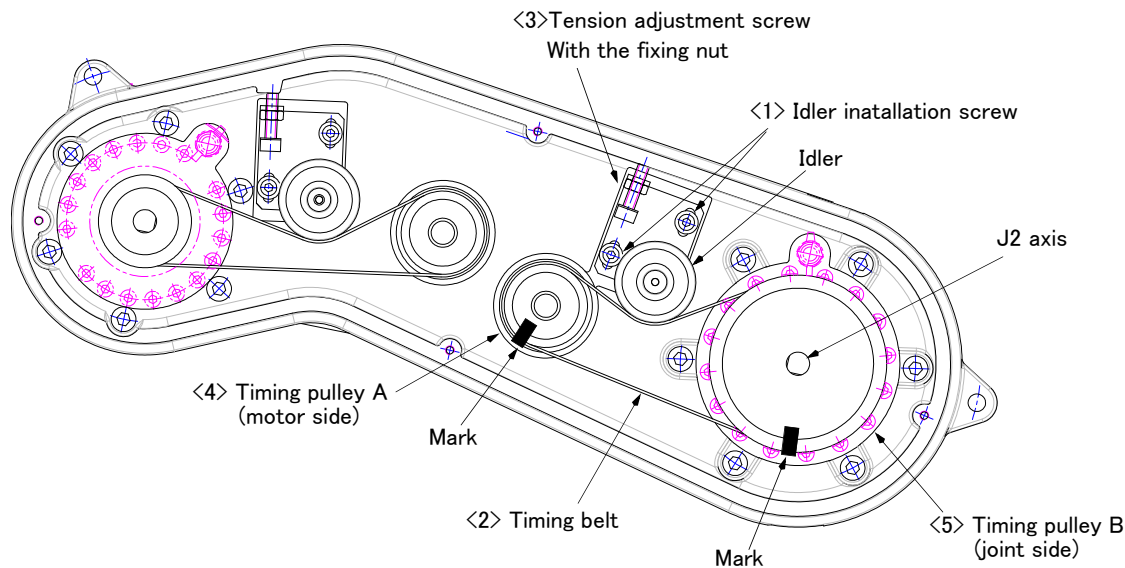

Fig.5-11 : Inspection and replacement of J2 axis timing belt (RV-2FR series)
The reference figure at inspection and replacement of the timing belt is shown in Fig. 5-11.
- 3) Make marks on the timing belt <2> and timing pulleys A <4> and B <5> with a felt-tip pen as shown in Fig. 5-11 so that the engagement of the timing belt <2> and timing pulleys <4> and <5> does not deviate.